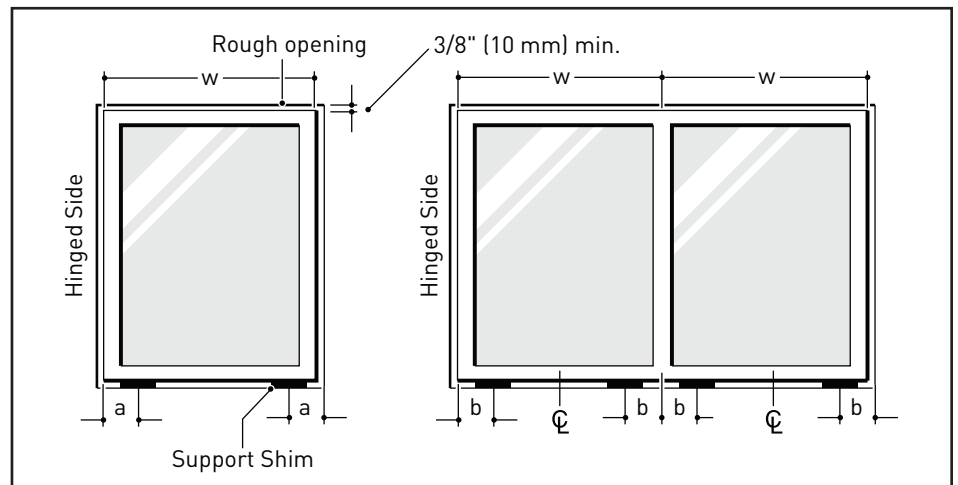

Figure 1-2. Where to put the support shims
- 2.4. Shim sill of window on the corners and on both sides of any mullions (See fig. 1-2). Adjust the height of the shims to obtain a level sill, ensuring you have 3/8" gap at the head (inter-storey deflection not to exceed $\pm 3/8$ ").